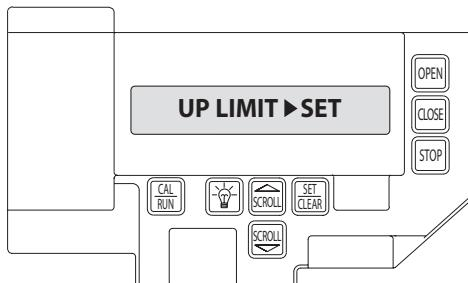

Figure 6
- 2) Press SCROLL  until display reads "UP LIMIT>CLR" or "DOWN LIMIT>CLR" **Figure 6**.